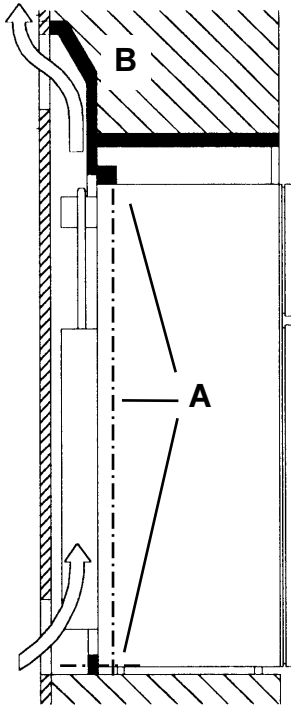

FIG. 1
Insert lipped seals (A) into the installation recesses at the bottom and at each side (FIG 1, 2, 3).
In addition, discharge plate (B) with its lipped seal (A) must seal the refrigerator off from the living area (see FIG. 1,4).